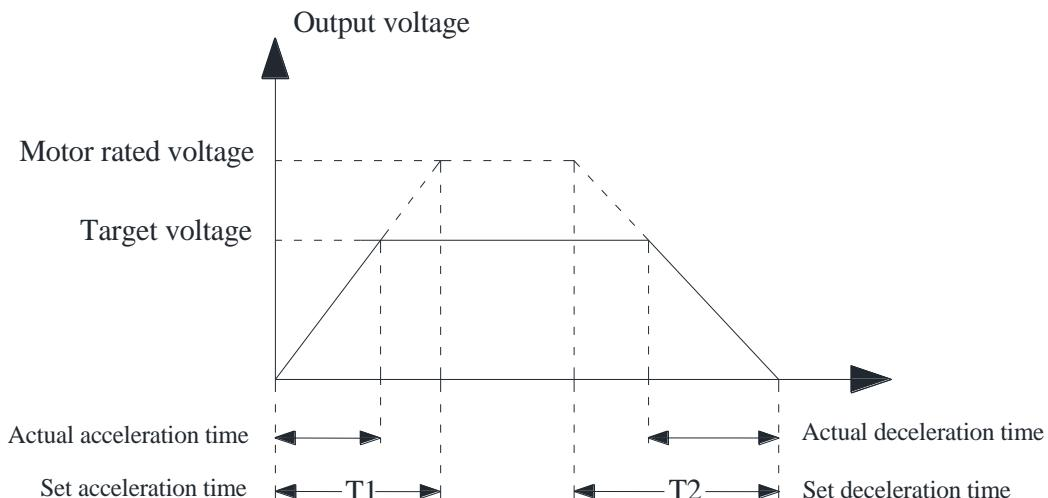

Figure 6-5 V/F Separation diagram
■ The V/F separation rise time refers to the time required for the output voltage to change from 0V to the rated voltage of the motor. As shown in Figure 6-5.